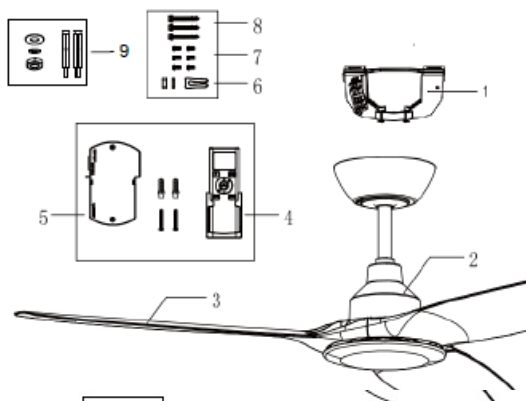

Fig 1a.
1. Unpack the fan and identify all parts as shown in Fig 1a and Fig 1b.
Unpack the fan carefully and identify all parts. Please refer to Fig 1a and Fig 1b